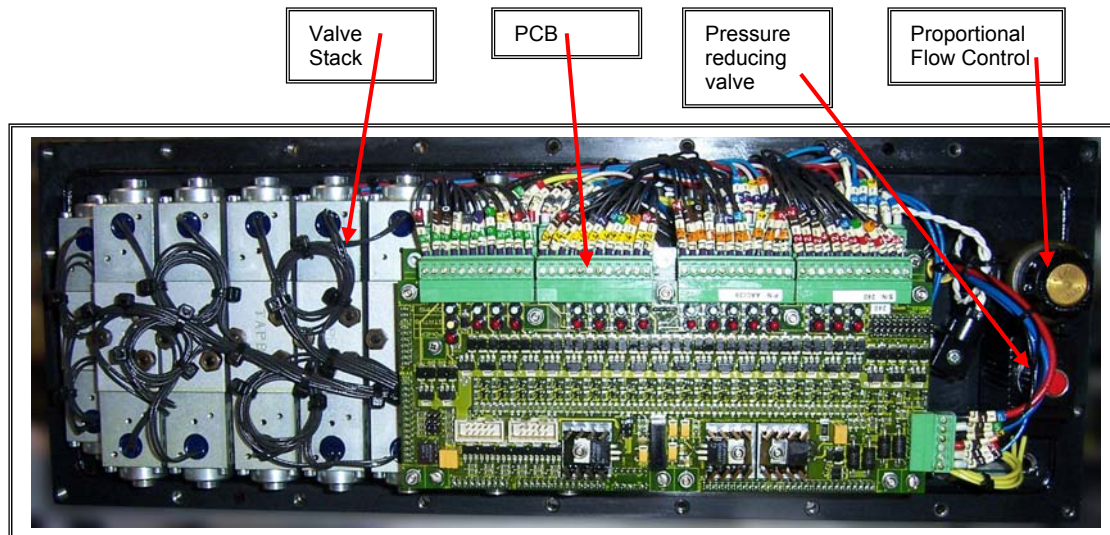

Figure 3 - Valve Pack with Cover Removed
4. Loosen all M6 socket head cap screws from the valve pack cover flange. The housing can then be removed in one piece as shown in Figure 3 (the M6 cap screws are retained in the housing by captive washers).